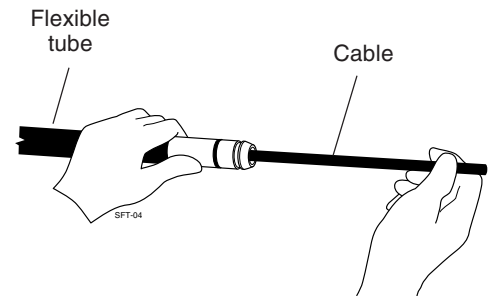

Figure 10.11 Remove the flexible cable.
- STEP 3.** Slide the flexible cable from the flexible tube assembly (Figure 10.11), and wash the cable thoroughly in a solvent bath.